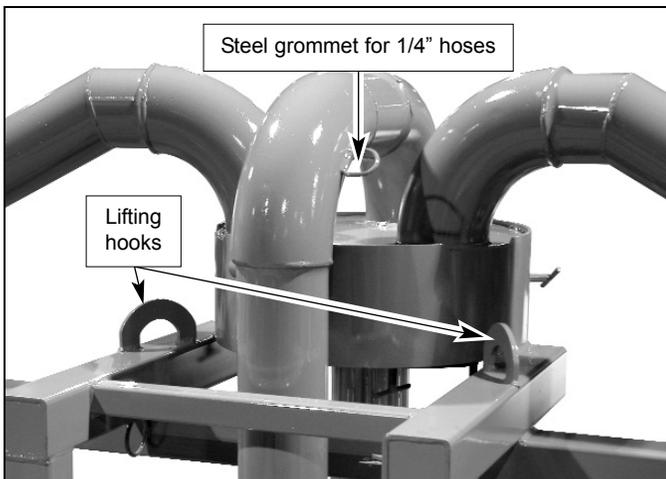

Fig. 3
- 1.3. Attach the tool bar framework to a winch using the lifting hooks - *fig. 3*.
- 2.12. Pass two 1/4" hoses inside the grommet welded on top of the center tube (*fig. 3, page 2*). Connect these hoses to the relief valve of the hydraulic lines **P** and **T** - *fig. 16*.